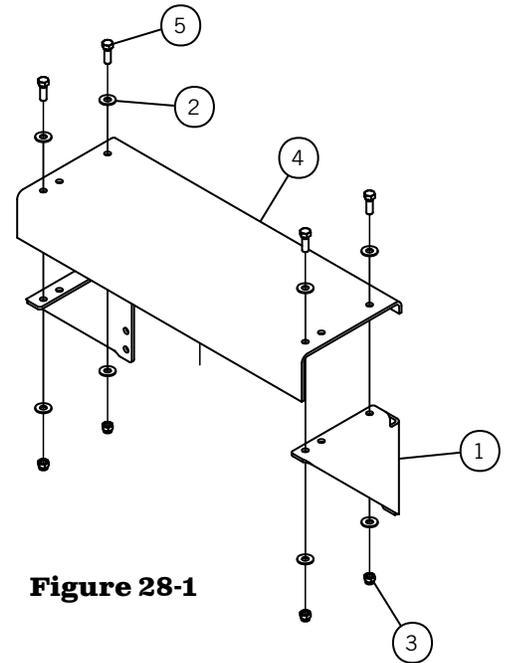

Figure 28-1
- 1) **Figure 28-1.** Assemble the rear arm mounting bracket per the assembly drawing.